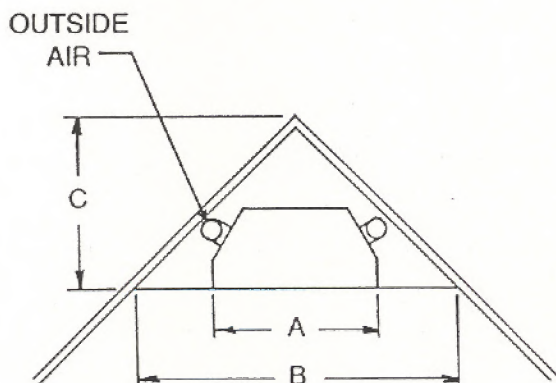

Figure 3
- Across a corner. (See Figure 3 for minimum space.)